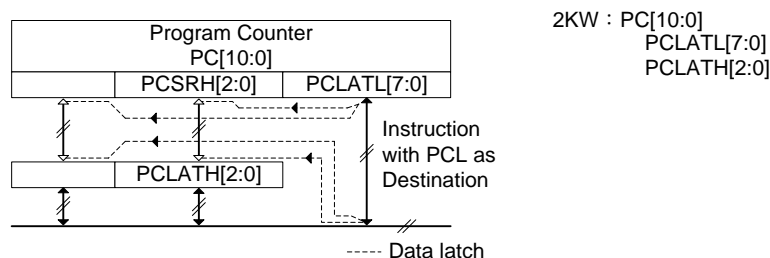

Fig 2-2 PC Architecture
Program Counter (PC) is composed of shift register PCSR and buffer register PCLAT. See Fig 2-2.